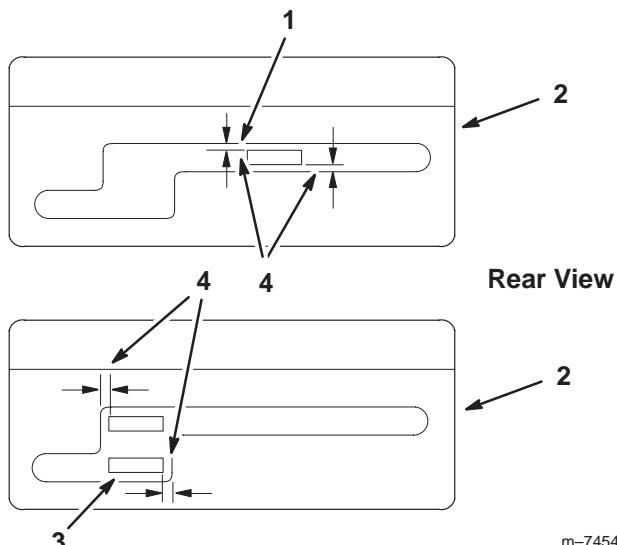

Figure 8
- Shift lever to second gear and check alignment of lever in slot of shifter lever plate. The clearance between top and bottom of the shift lever should be equal (Fig. 8).
- If clearance is not correct, remove lever and bend it slightly to adjust (Fig. 8).
- Shift lever to neutral and check alignment of lever in slot of shifter lever plate. The clearance on the sides of shift lever should be equal (Fig. 8).